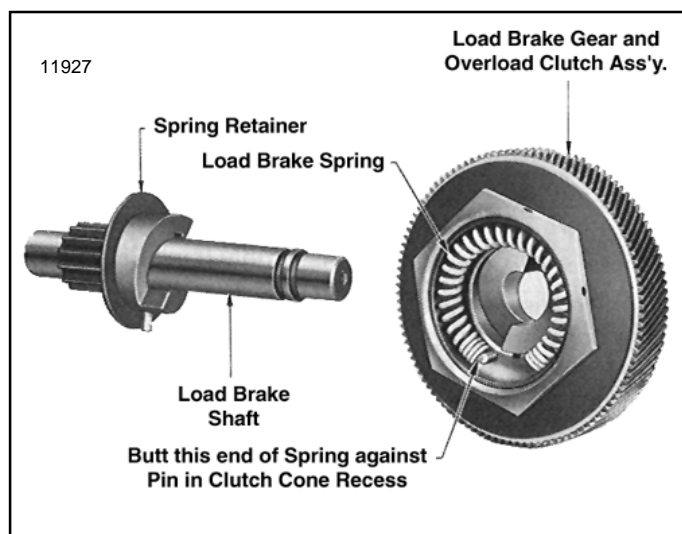

Figure 7-24. Load Brake Gear and Overload Clutch Assembly Removed from Load Brake Shaft Showing Brake Spring Installed in Clutch Cone
(3) Remove load brake gear and overload clutch assembly from output pinion shaft. Pull the spring from its recess in clutch cone (fig. 7-24) but do not further disassemble gear and clutch assembly. See **"NOTE"** below.
NOTE: Disassembly of the load brake gear and overload clutch assembly (fig. 7-24) is not recommended. Clutch pressure is preset by the factory at assembly to provide the correct torque to allow the clutch to refuse loads within a specified range (150% of rated load to 200% rated load). It is suggested whenever there is a need to repair or readjust the gear and clutch assembly that it be sent to an authorized **Budgit** Hoist Repair Station where adequate tools, fixtures and appropriate test equipment is available.
(1) Before assembly, all parts should be cleaned and inspected to determine their serviceability. Replace parts that are worn or damaged.
(2) Reassemble load brake parts following a reverse procedure of the disassembly steps listed above, observing the assembly steps (3) thru (6) below.
(3) Before installing spring in its recess in center of clutch cone (fig. 7-24) apply a good grade of ball bearing grease to inside of recess. Spring must be positioned exactly as illustrated, abutted against pin.